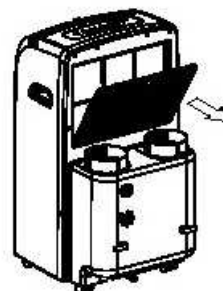

Fig.17
- Removal: Grasp the air filter tab and first pull towards you, then lift upwards. Fig.17